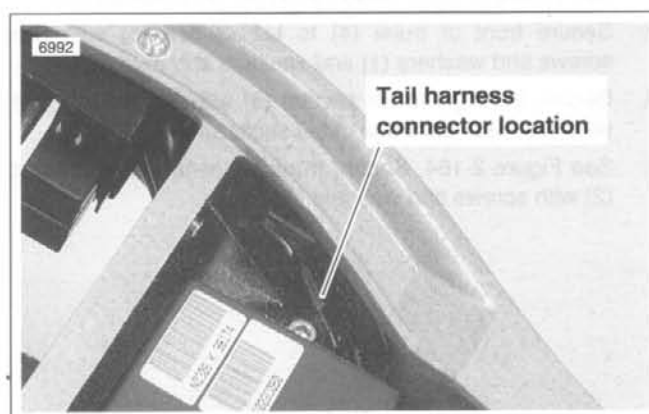

Figure 2-166. Wiring Harness
5. See Figure 2-166. Disconnect tail harness.